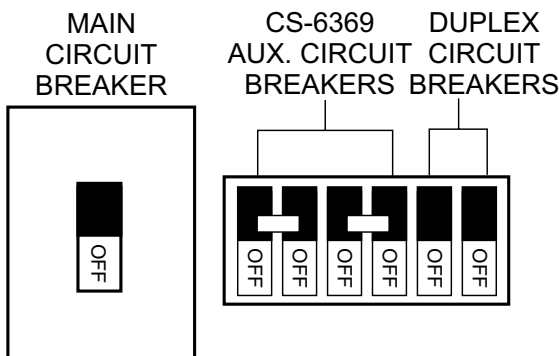

Figure 63. Main, Aux. and GFCI Circuit Breakers (OFF)
4. Place the **MAIN, GFCI and LOAD** circuit breakers as shown in Figure 63 to the **OFF** position.